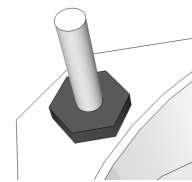

Figure 3. Step 4
4. Unscrew the M5 hex bolts, enclosing the push-rotary shaft (see figure 3).